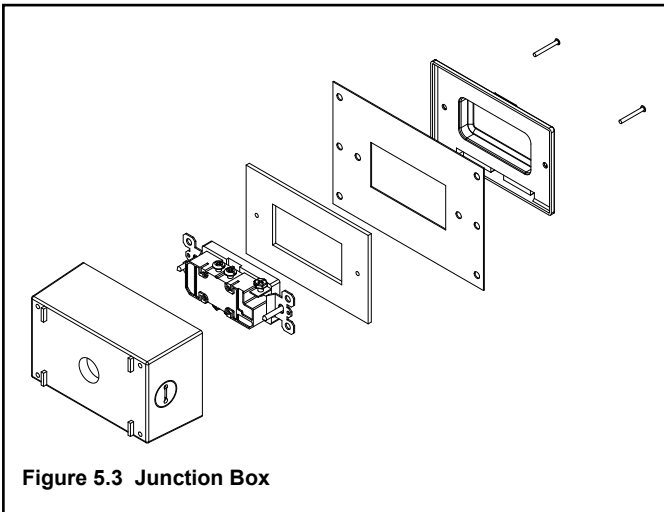

Figure 5.3 Junction Box
- Disassemble Junction Box. See Figure 5.3.